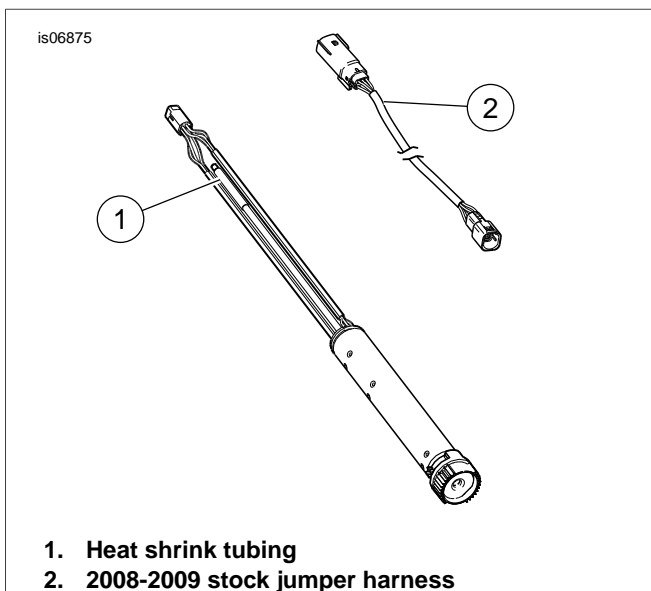

Figure 2. 2008 and 2009 TGS and Harness
3. See Figure 2. Unplug TGS jumper harness from TGS and main harness and discard stock jumper harness (2).